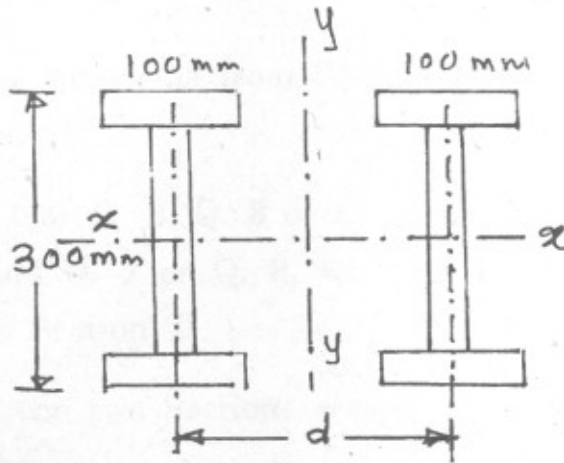

Fig. 9
12. (a) Two identical rolled steel 'I' sections are used to form a built up section for axially loaded column. The sections are placed side by side and connected together suitably to act as a one unit as shown in Fig. 9. [10]